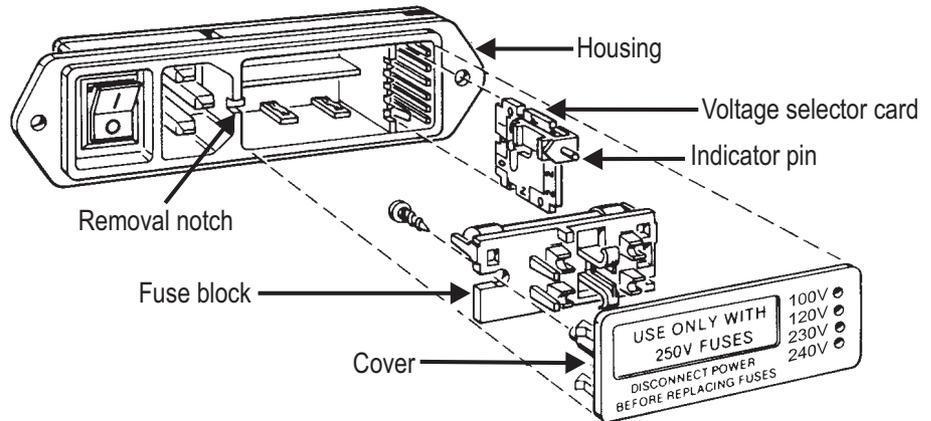

Figure 10-2 Exploded Diagram of Power Entry Module
Attached to the rear of the Cover (shown on Figure 10-2) is the fuse block. The fuse block can have two orientations. One orientation is for the 100 V and 120 V settings, and the other is for the 230 V and 240 V settings.
1. If the Cover is not already removed from the instrument, remove it by inserting a small blade screwdriver (or similar tool) into the Removal notch (shown on Figure 10-2) and prying gently.
1. If the Cover (see Figure 10-2) is not already removed from the instrument, remove it by inserting a small blade screwdriver (or similar tool) into the Removal notch (shown on Figure 10-2) and prying gently.